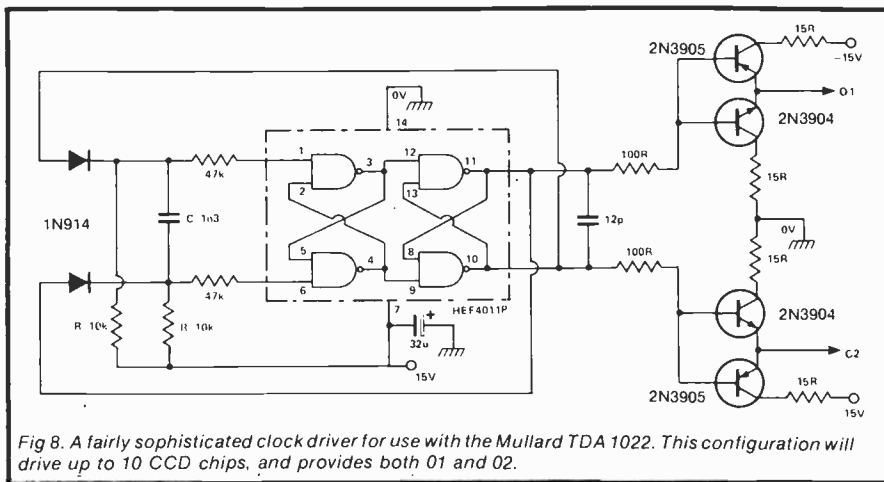

Fig 8. A fairly sophisticated clock driver for use with the Mullard TDA 1022. This configuration will drive up to 10 CCD chips, and provides both O1 and O2.
Both CCDs reviewed here are pure analogue "clocked" devices and require a relevant incorporated oscillator facility. As far as TDA 1022 is concerned, up to 10 chips can be operated with the system configuration recommended by the manufacturer and shown in Fig. 8.
**TABLE THREE:** Setting the clock frequency for the TDA 1022 by selecting component values R and C are referred back to Figure 8. Altering this changes f as shown above.